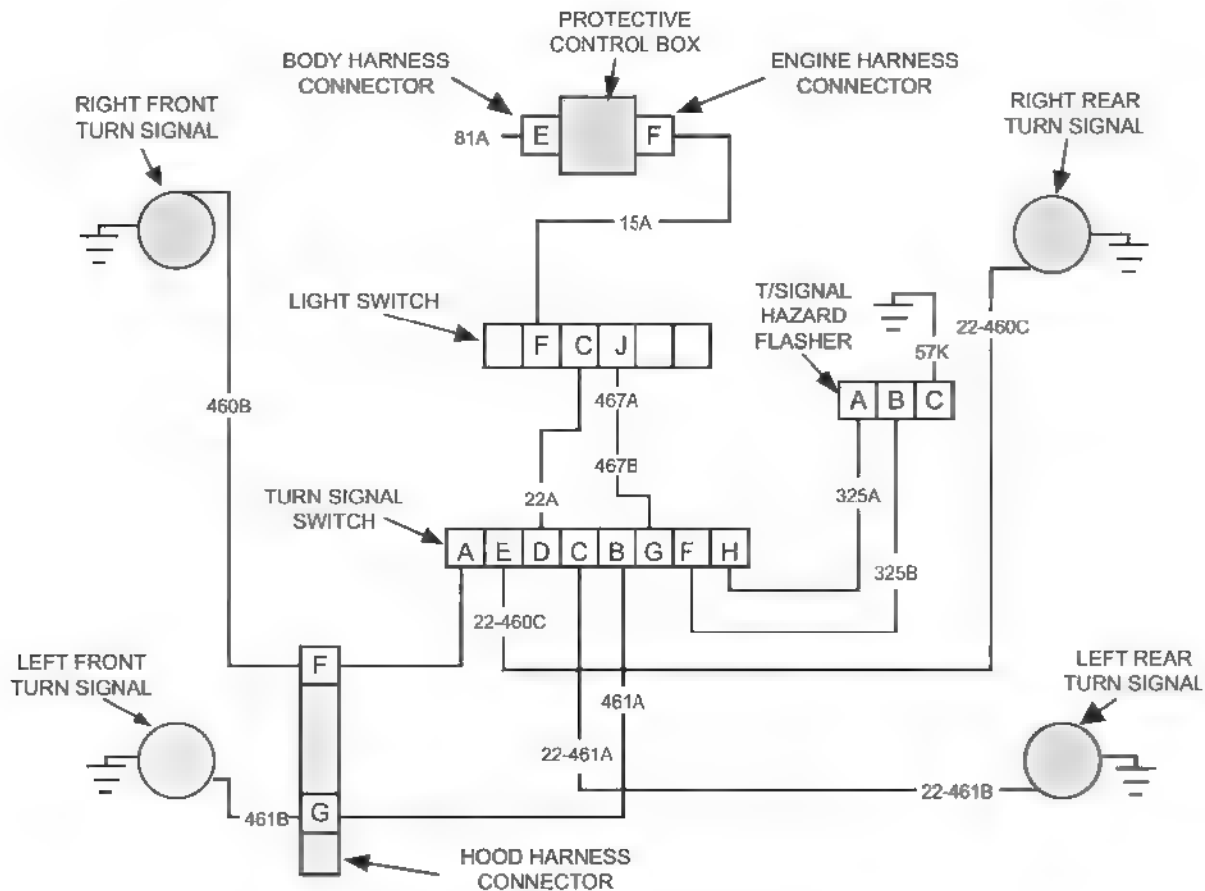

Figure 12-13. Turn Signal System Schematic.
J. STOPLIGHTS INOPERATIVE OR DO NOT OPERATE PROPERLY (Figure 12-13)
K. TURN SIGNALS INOPERATIVE OR DO NOT OPERATE PROPERLY (Figure 12-13 and 12-14)